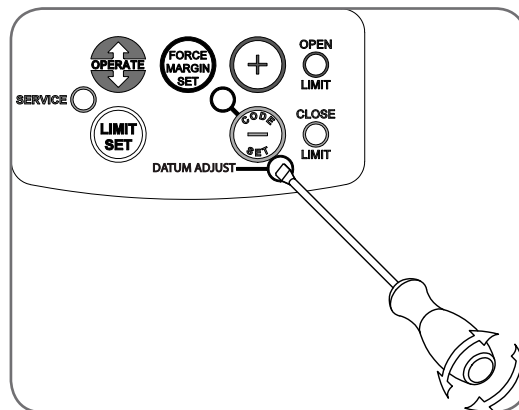

Fig. 25
- Press and hold the MINUS (-) or PLUS (+) button to move the door to the halfway open position. (Fig. 25).